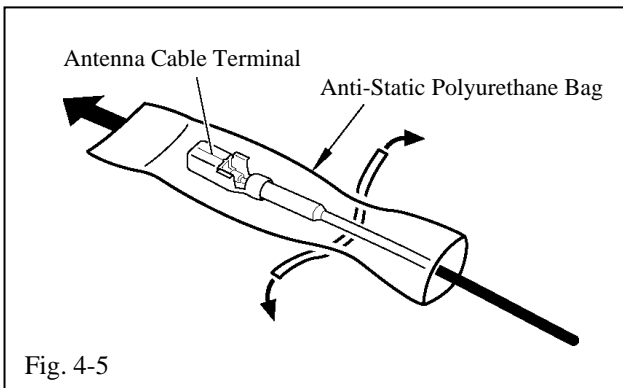

Fig. 4-5
- (1) Remove the anti-static polyurethane bag from the terminal. (Fig. 4-5)